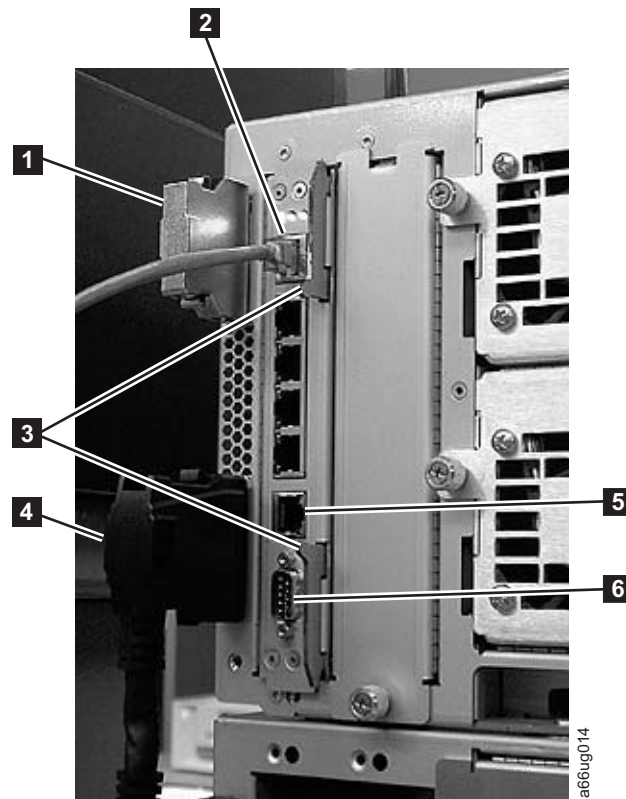

Figure 8-37. Library Control Blade (LCB)
2. On the LCB (Figure 8-37 on page 8-39), disconnect the Ethernet cable (**2** in Figure 8-37 on page 8-39) by pinching the tab to disengage the cable, and then pull the connector out of the LCB.
Note: Six slots reside below the Ethernet cable. The four topmost slots are reserved for future use. The two bottommost slots are designated as Ethernet (**5** in Figure 8-37 on page 8-39) and serial (**6** in Figure 8-37 on page 8-39).
3. Grasp the pair of latches (**3** in Figure 8-37) near the top and bottom of the LCB. Simultaneously push the latches to the left, and then pull them out and away from the LCB.